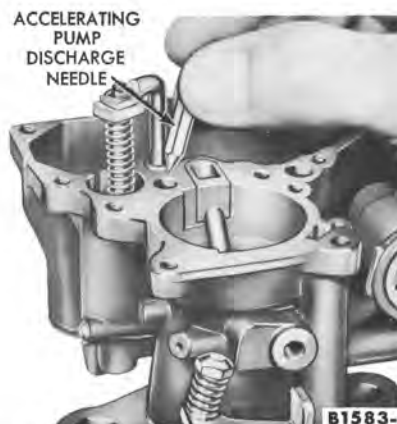

FIG. 31—Accelerating Pump Needle Installation
12. Install the accelerating pump discharge needle (Fig. 31).